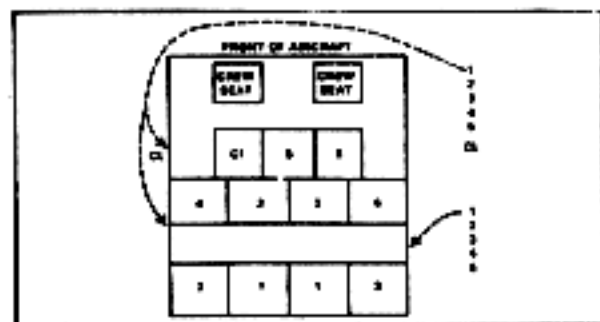

Figure B-12. UH-60 Loading Diagram, Whole Chalk
(e) UH-60 Loading Sequence (Figure B-12).
(1) The chalk leader (squad leader) initiates movement once the aircraft has landed.
(2) The farside and nearside groups move to the aircraft in file with the No. 1 man leading the load to the appropriate side (Figure B-12).